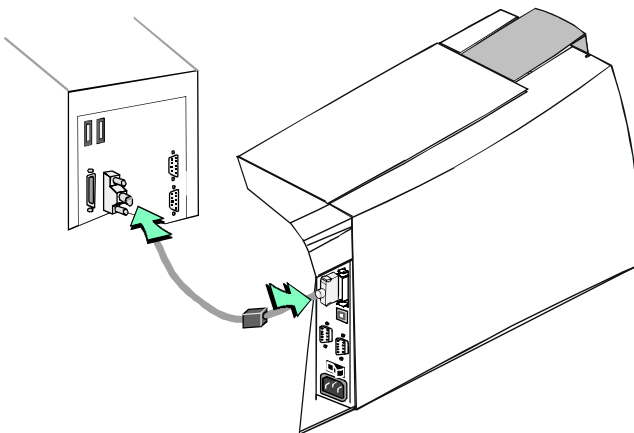

Figure 7-2: Connect the parallel port cable
- 2 Attach the other end of the cable to the parallel port on the PC (see Figure 7-2). Press the cable connector all the way onto the port, and then turn the posts to secure the cable to the PC.